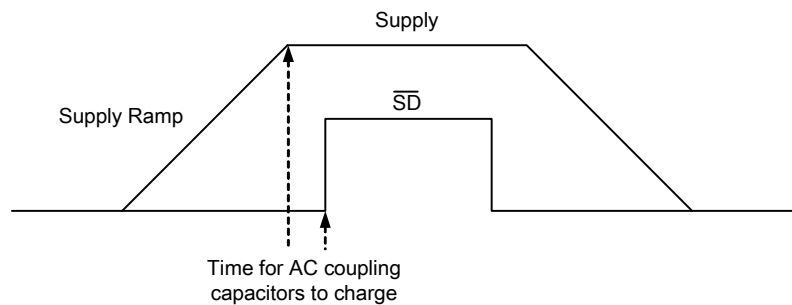

Figure 5. Power-Up Sequence
Pop-free power up is ensured by keeping the \overline{SD} (EN) (shutdown pin) low during power supply ramp up and down. The EN pin should be kept low until the input AC coupling capacitors are fully charged before asserting the EN pin high. This way proper precharge of the AC coupling is performed, and pop-free power-up is achieved. Figure 5 illustrates the preferred sequence.